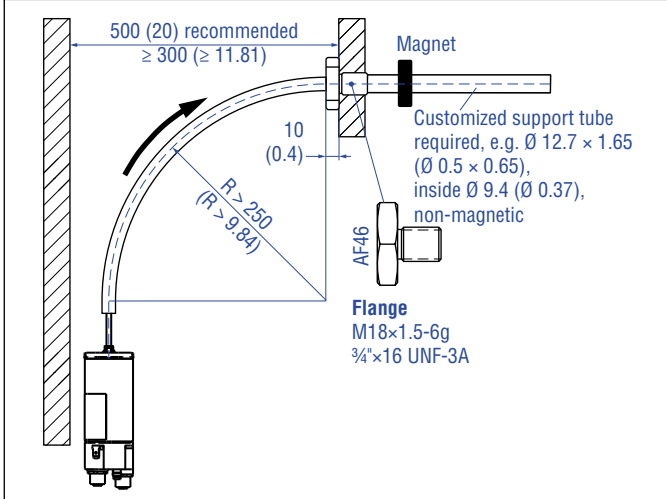

Fig. 25: Clearances for installation
1. Always insert the flexible sensor rod in a support tube (e.g. pressure rod HD / HL / HP or HFP profile). The support tube with an inside diameter of 9.4 mm (0.37 in.) consists of non-magnetic material. The support tube can be straight or bent (note the bending radius in Fig. 25).
4. Note the minimum distance to a spatial limitation of 300 mm (11.81 in.), when mounting / dismantling the sensor (Fig. 25).